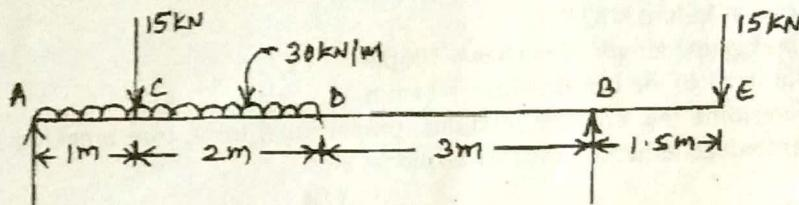

Fig.Q6(b)
- b. Construct SFD and BMD for the beam loaded shown in Fig. Q6(b). Also locate the point of contraflexure.